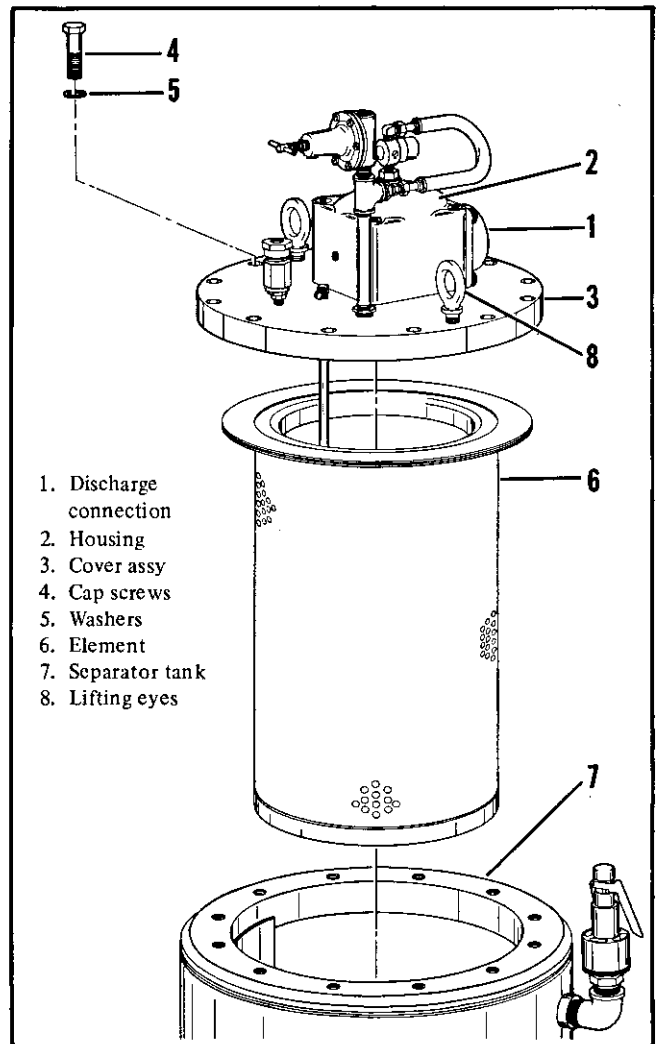

Figure 5-7. Oil separator element
5-22. OIL SEPARATOR ELEMENT (Figure 5-7). To remove oil separator element, perform the following disassembly in sequence.
b. Disassemble discharge manifold piping from oil separator minimum pressure valve housing (1, 2, figure 5-7).
Do not replace special bolts (4, figure 5-7) with ordinary low carbon type. Unit is supplied with high tensile bolts to meet ASME requirements.